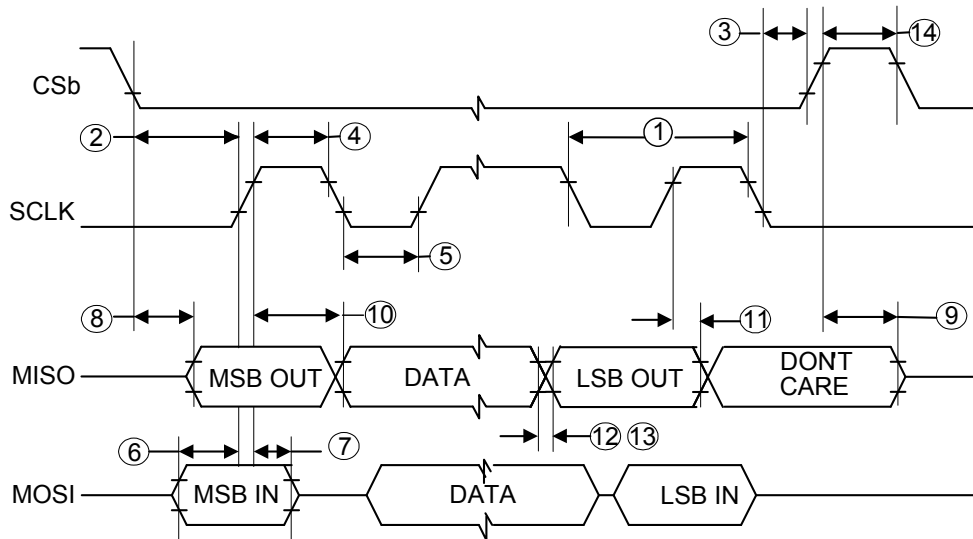

Figure 7. SPI timing diagram
| t_{SCK} | SCLK Period • Figure 7 - 1 | 160 | — | — | ns | |
| t_{LEAD} | Enable Lead Time • Figure 7 - 2 | 140 | — | — | ns | |
| t_{LAG} | Enable Lag Time • Figure 7 - 3 | 50 | — | — | ns | |
| t_{SCKHS} | SCLK High Time • Figure 7 - 4 | 56 | — | — | ns | |
| t_{SCKLS} | SCLK Low Time • Figure 7 - 5 | 56 | — | — | ns | |
| t_{SUS} | MOSI Input Setup Time • Figure 7 - 6 | 16 | — | — | ns | |
| t_{HS} | MOSI Input Hold Time • Figure 7 - 7 | 20 | — | — | ns | |
| t_A | MISO Access Time • Figure 7 - 8 | — | — | 116 | ns | |
| t_{DIS} | MISO Disable Time ⁽²³⁾ • Figure 7 - 9 | — | — | 100 | ns | |
| t_{VS} | MISO Output Valid Time • Figure 7 - 10 | — | — | 116 | ns | |
| t_{HO} | MISO Output Hold Time (No cap on MISO) • Figure 7 - 11 | 20 | — | — | ns | |
| t_{RO} | Rise Time • Figure 7 - 12 | — | — | 30 | ns | (23) |
| t_{FO} | Fall Time • Figure 7 - 13 | — | — | 30 | ns | (23) |
| t_{CSN} | CS_B Negated Time • Figure 7 - 14 | 500 | — | — | ns | |